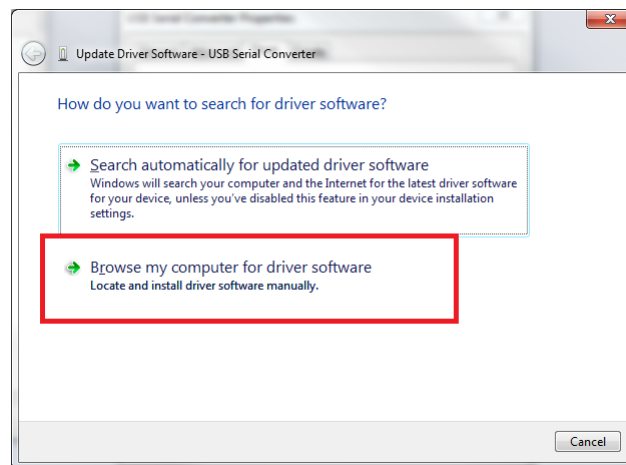

Figure 2-8. Browse Computer For Driver Files
8. Click the **Browse my computer** option, shown in Figure 2-8.